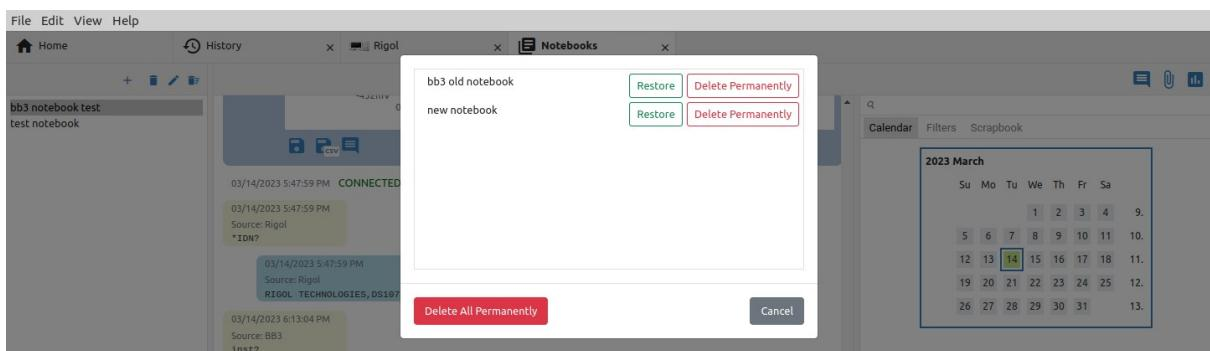

Fig. 12: Deleted notebooks
Create a new blank notebook or import a notebook file. When creating a new notebook, you will need to enter a name. To import data into a notebook, use the Notebook option in the instrument's *Terminal*, as shown in Fig. 12: (1) go to the *Terminal* tab in the *Action bar*, (2) select one or more items and (3) export them to a notebook file, a new notebook or an already created notebook.
Notebooks that have been removed from the list are not immediately deleted from the database. This option enables the display of all notebooks (Fig. 12) that have been removed from the list and offers the possibility to restore (return to the list) or permanently delete the notebook.